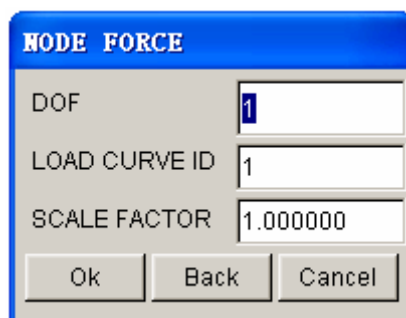

Figure 5.6.3 Define Node Force
- Key in **DOF**, **LOAD CURVE ID** and **SCALE FACTOR** in the **NODE FORCE** dialog box as illustrated in Figure 5.6.3.